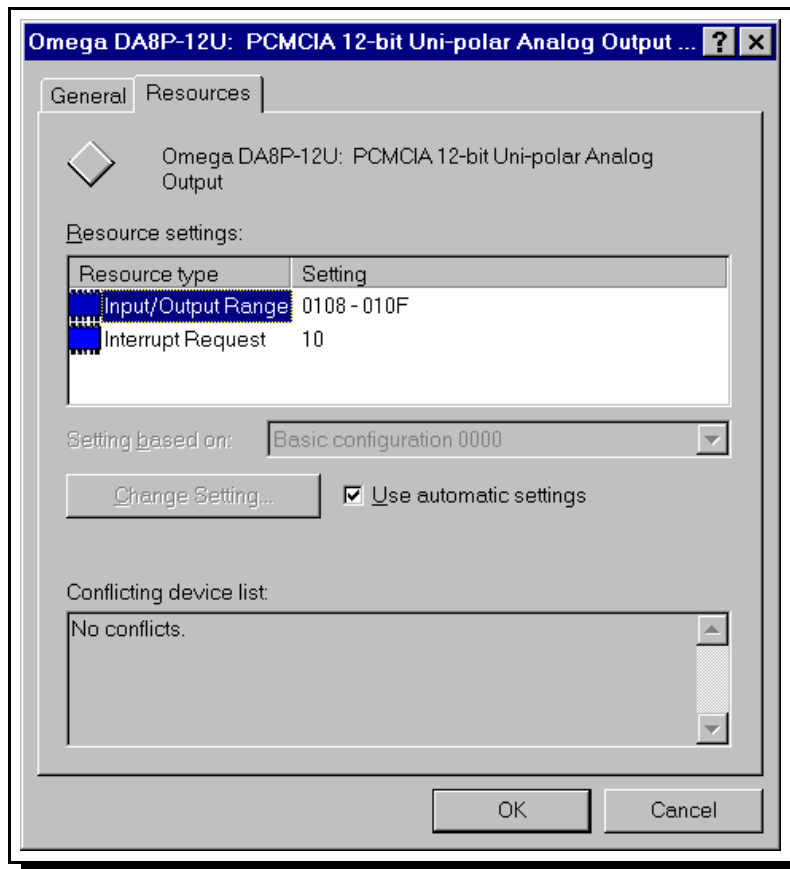

Figure 3-1. Windows 95/98 Resource Settings
4. If any changes have been made to the DA8P-12 configuration, the card will automatically be reconfigured to the new resources specified. Any time a PCMCIA card of this type is inserted Windows 95/98 will attempt to configure the card at these resource settings. Click the **Use Automatic Settings** box to reset this card type for automatic configuration (see Figure 3-1).